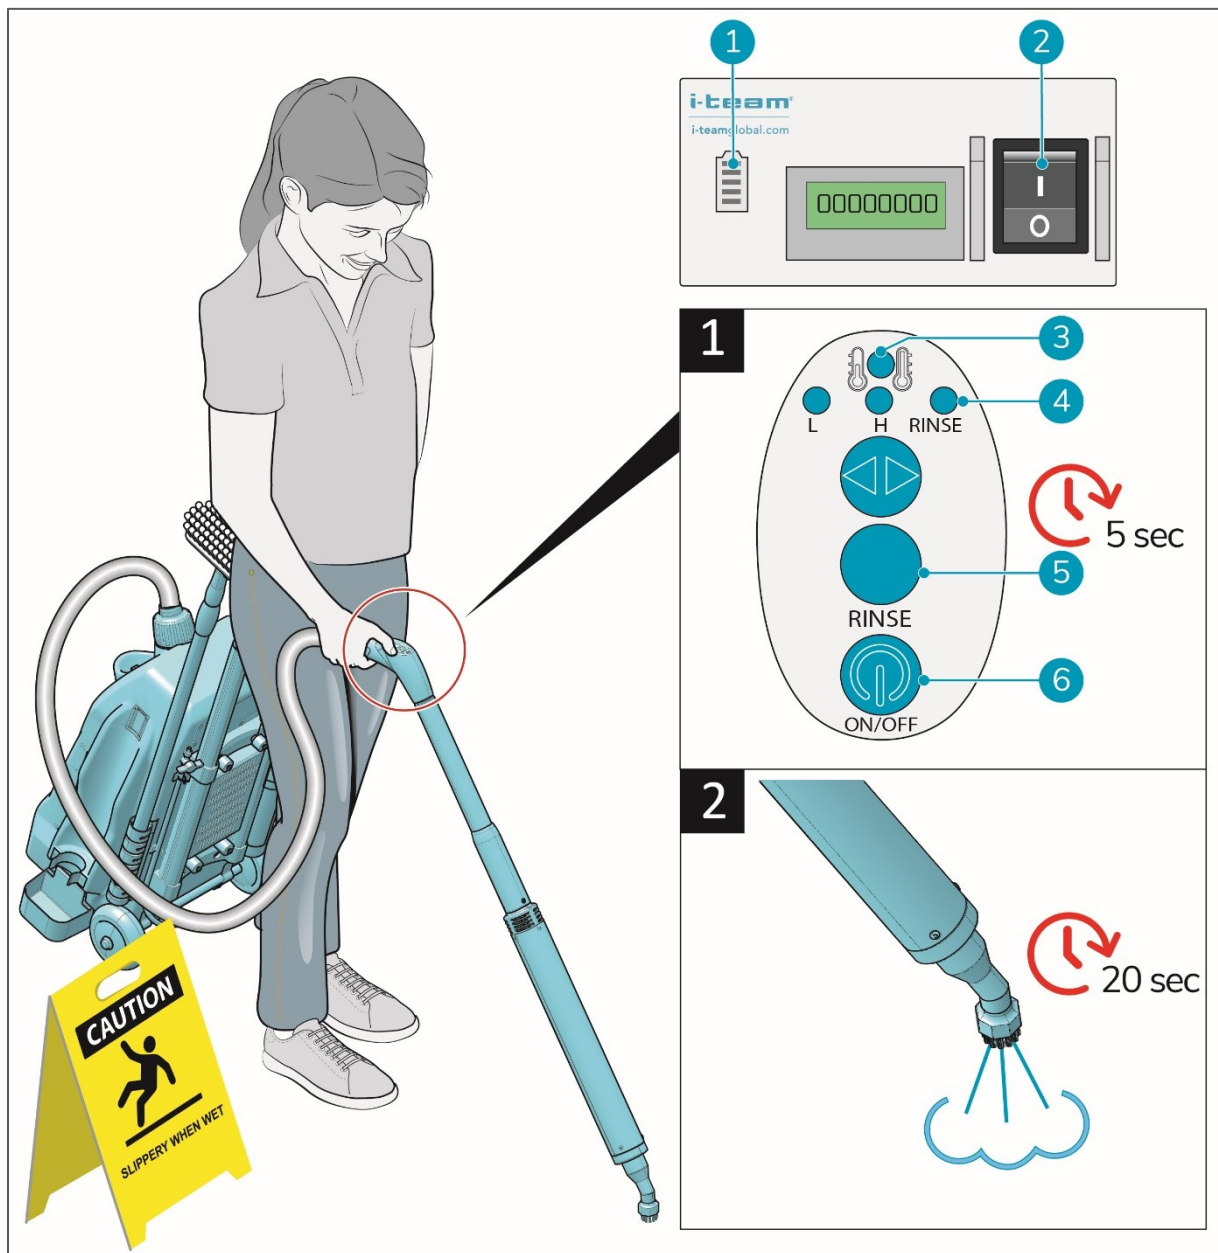

Figure 14
3. Turn on the i-gum® using the main power switch on the bottom (fig 14, pos 2) left of the body.
4. Check the power indicator (fig 14, pos 1).
6. Press the ON/OFF button (fig 14, pos 6) on the handle control.
7. Press the RINSE button (fig 14, pos 5).
9. Check the rinse indicator light (fig 14, pos 4).
10. Release the RINSE button (fig 14, pos 5) when rinse indicator light is on.
12. Check the heating indicator light (fig 14, pos 3).